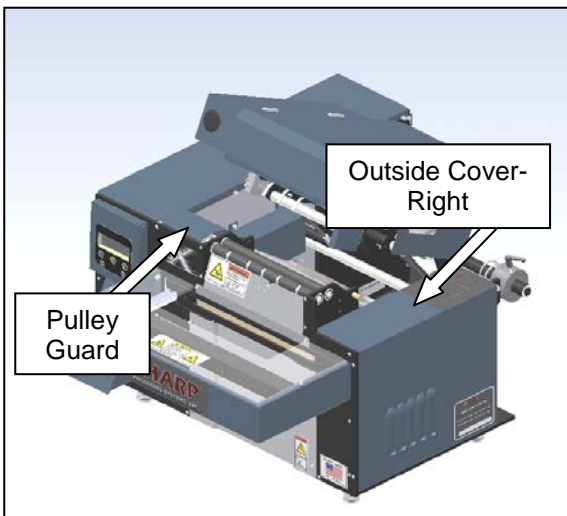

Figure 3-167. Guard Identification
1. Remove the pulley guard and the outside cover-right (Figure 3-167).